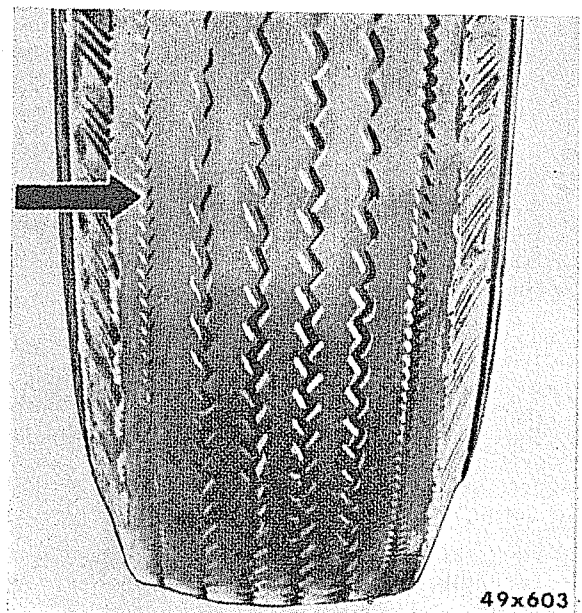

Fig. 18—Camber Wear.
- (b) Excessive positive camber will develop noticeable wear on the outer ribs of tyres, as shown in Figure 18. Excessive negative camber will develop noticeable wear on the inside ribs of tyres. Camber should be adjusted ONLY if this type of wear is evident.